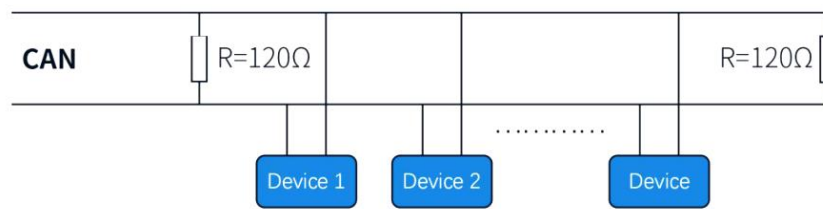

Figure 1-1
- When using CAN protocol to connect multiple devices, please refer to the connection method shown in Figure 1-1 below.